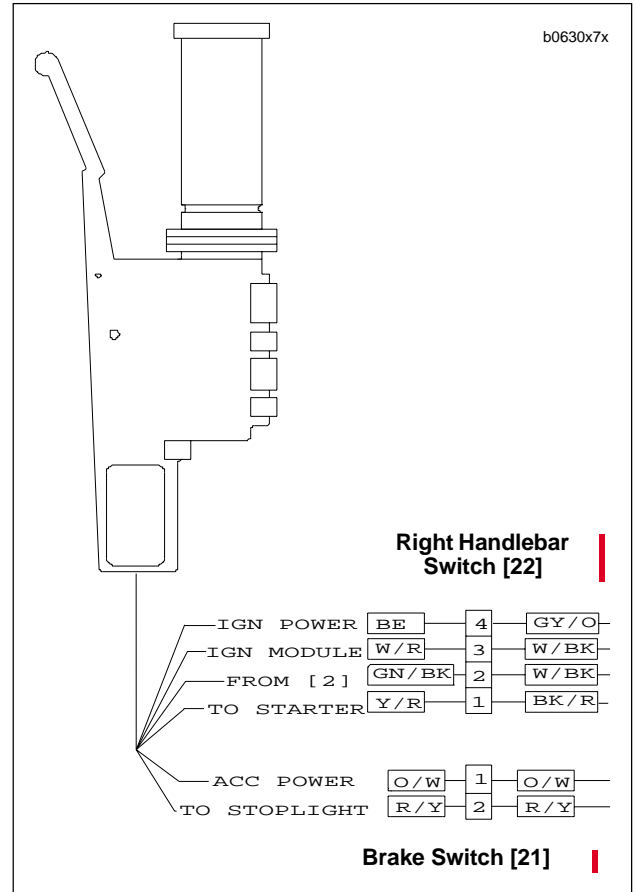

Figure 7-49. Right Handlebar Switch Connection
4. See Figure 7-49. Cut as many cable straps as necessary to access right handlebar switch connector [22] along right side frame tube. Detach connector [22] from wiring harness.